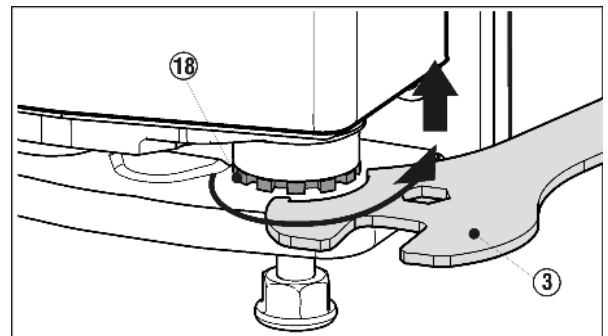

Fig. 22
- To lift the door, turn the bearing pin Fig. 22 (18) clockwise using the open-ended spanner Fig. 22 (11) included in the supply package. In the delivery condition, the bearing pin is completely screwed in.